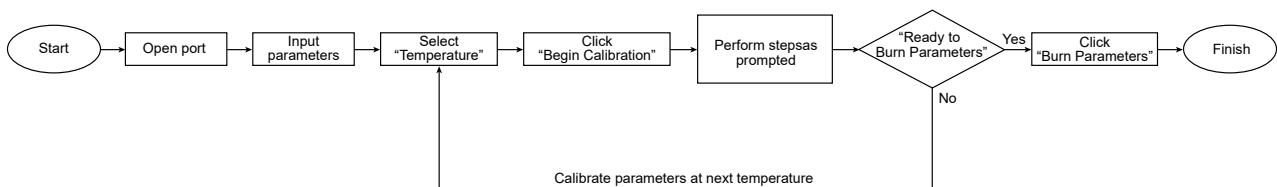

Figure 7. Calibration procedure
5.1 TMR265x parameters can be configured according to steps outlined in Figure 7.